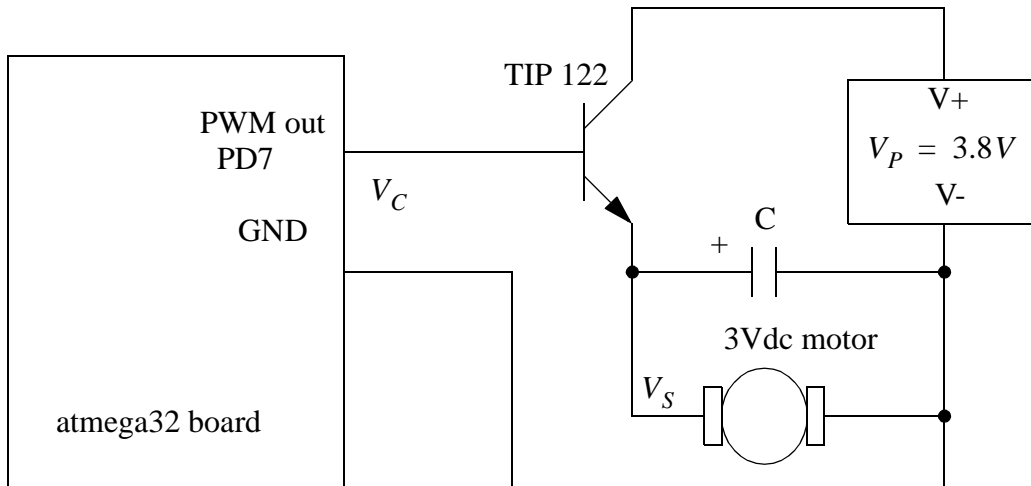

Figure 7.3 PWM control of motor speed
1. Build the motor speed controller pictured in Figure 7.3. Use Figure 7.4 when connecting the transistor. Use a heat sink on the transistor to help dissipate heat. Use the PWM program from the previous lab to control the PWM output and test the motor speed control.